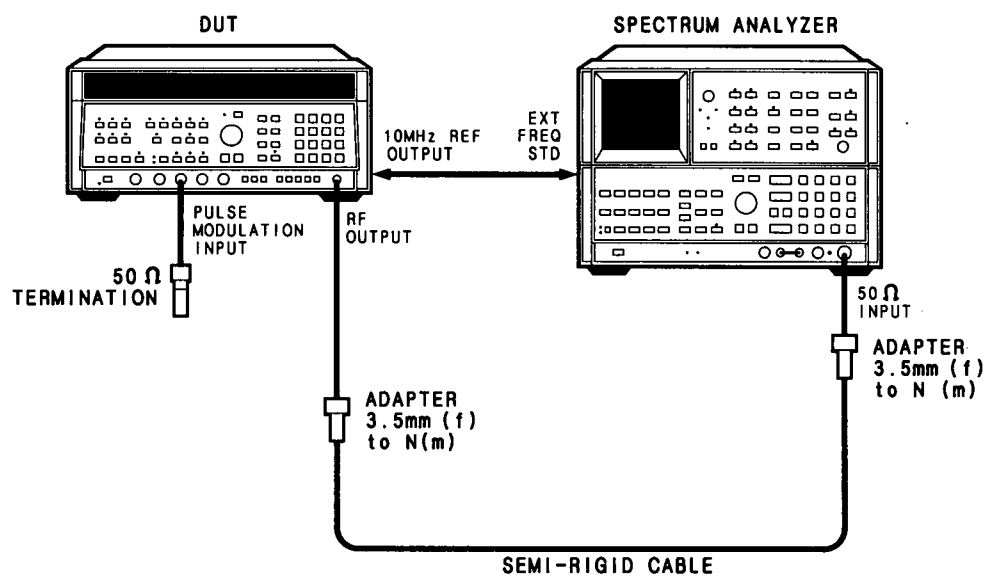

Figure 4-10. Pulse Modulation ON/OFF Ratio Test Setup
1. Connect equipment as shown in Figure 4-10. Allow a one hour warm up time.
4. Press the DUT's **[PULSE]** key (ON). The spectrum analyzer marker delta amplitude level should be greater than 80 dB.